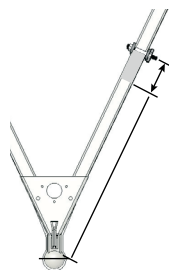

Figure 6
1. Install the bracket assemblies between 25" – 30" from the center of the coupler. (Figure 6) This range should allow you to avoid most obstructions on the trailer tongue like battery supports or propane tanks.